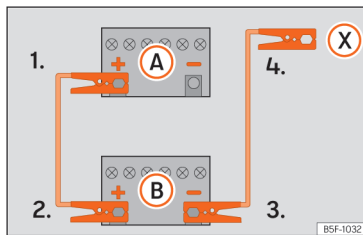
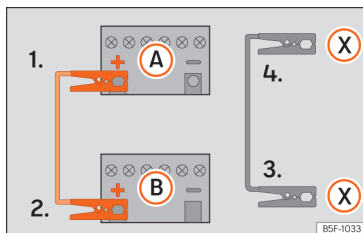

Fig. 161 Wiring diagram for vehicles without a start/stop system.
Fig. 162 Wiring diagram for vehicles with a start/stop system.
The jump leads should only be connected in the order **1 > 2 > 3 > 4** »» Fig. 162.
- Connect one end of the *red* jump lead to the positive (+) terminal of the vehicle with the flat battery (A).
- Connect the other end of the *red* jump lead to the positive terminal (+) in the vehicle providing assistance (B).
- Vehicles without a Start-Stop system:* connect one end of the black jump lead to the negative terminal (-) of the vehicle providing the current (B) »» Fig. 161. *Vehicles with a Start-stop system:* connect one end of the black jump lead (X) to a suitable ground terminal, to a solid piece of metal in the engine block, or to the engine block itself »» Fig. 162.
- Connect the other end of the *black* jump lead (X) to a suitable ground terminal, a solid metal component bolted to the engine block or to the engine block itself of the vehicle with the flat battery. Do not connect it to a point near the battery A.